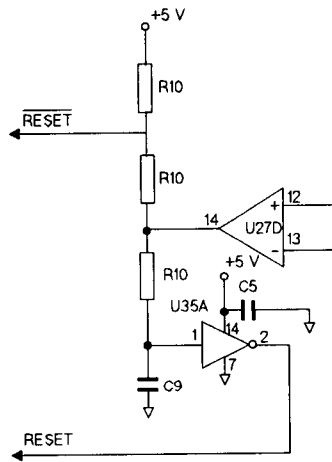

Figure B-9. 08116-66533: Reset circuit
7. Figure B-9 shows the microprocessor reset circuit on microprocessor board 66533, modify the schematic Figure 10.7-5 accordingly.